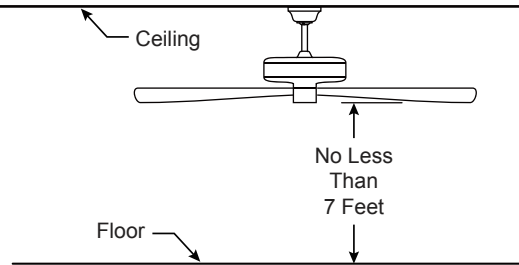

Figure 2
2. Install and securely tighten 3/16"-24 truss head screw with spring washer/flat washer at the underside of the blades, then securely tighten all previously installed screws on top of motor. (Figure 2)
- 2. Remove the hairpin clip and clevis pin from the bottom of the downrod. Retain the pin and clip for reinstallation in Step 4. (Figure 2)
The fan must be hung with at least 7' of clearance from floor to blades. (Figure 2)
<p>To avoid possible electrical shock, be sure electricity is turned off at the main fuse box before wiring. (Figure 2)</p>